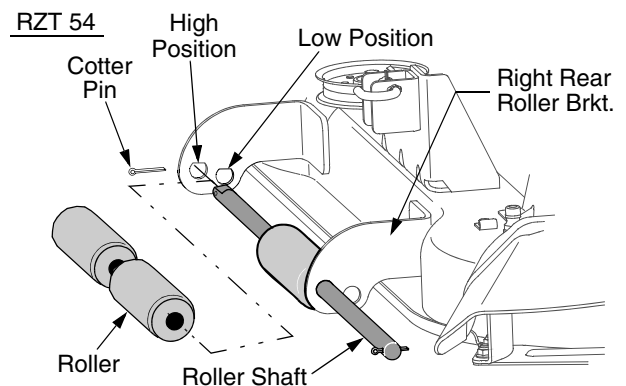

Figure 36
- Remove the cotter pin from the left end of the roller shaft. See Figure 36.
- Slide the roller shaft to the right and remove the rollers as the shaft is fully withdrawn from the right rear roller bracket. See Figure 36.